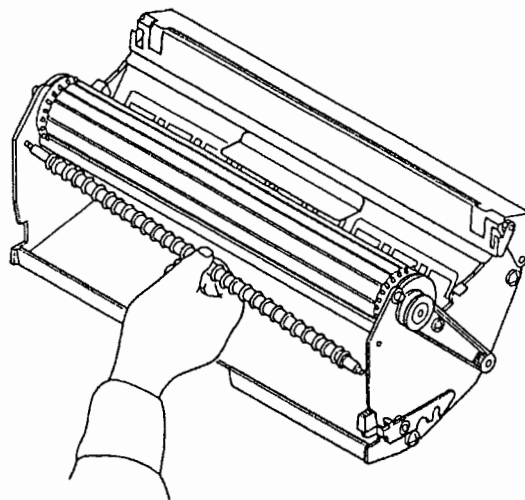

Figure 6.11
- (3) Remove the chart holding roller from the unit. Because there is a spring mechanism at the left of the roller, push the roller leftward to remove it. (Figure. 6.11)